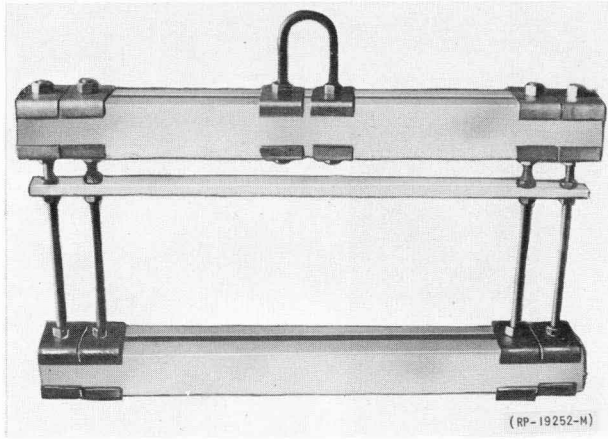

FIG. 9 UNIVERSAL JOB MADE JIG (Para. 3.5)
3.5 Figure 9 is a universal type jig which can be made on the job using auxiliary framing bars and threaded rod. The installer might find it useful in some particular situations.